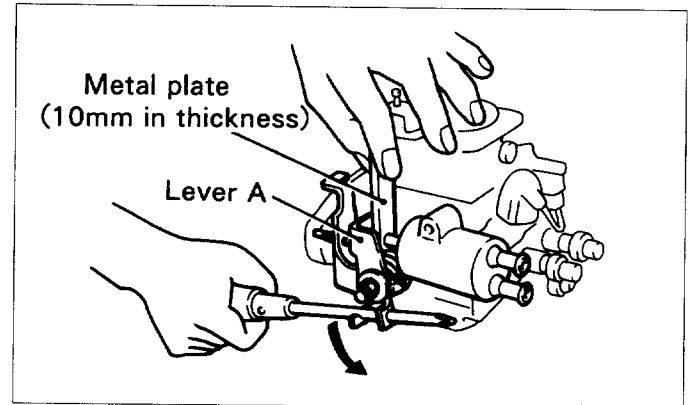

Fig.15-42
(1) Using a screwdriver, turn the levers counter-clockwise and put a metal plate of approx. 10mm in thickness between the lever A and thermo wax piston. (See Fig.15-42)